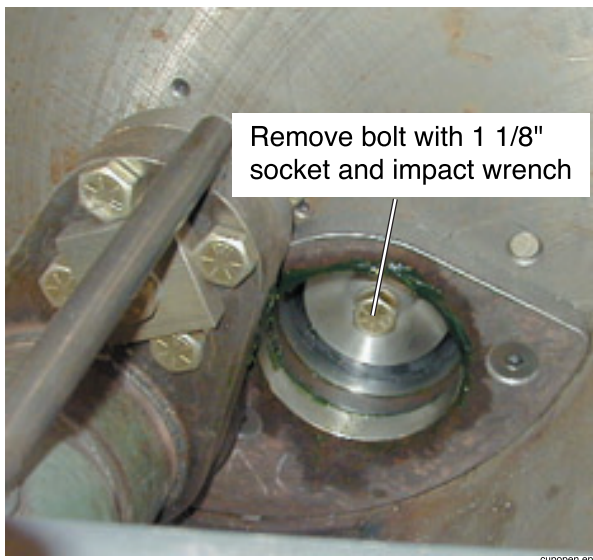

Figure 47
7. Place a 1 1/8" socket on an impact wrench, and remove the center mount bolt (Figure 47).